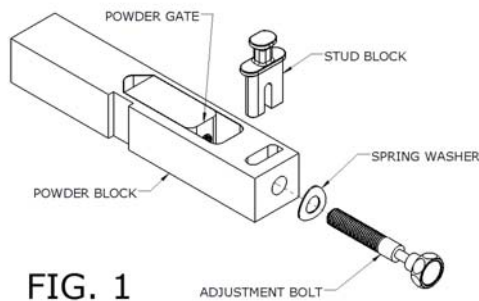

FIG. 1
1. USING A 7/16" WRENCH TIGHTEN THE ADJUSTMENT BOLT ON THE POWDER BLOCK UNTIL THE STUD BLOCK BECOMES LOOSE. SEE FIG. 1.